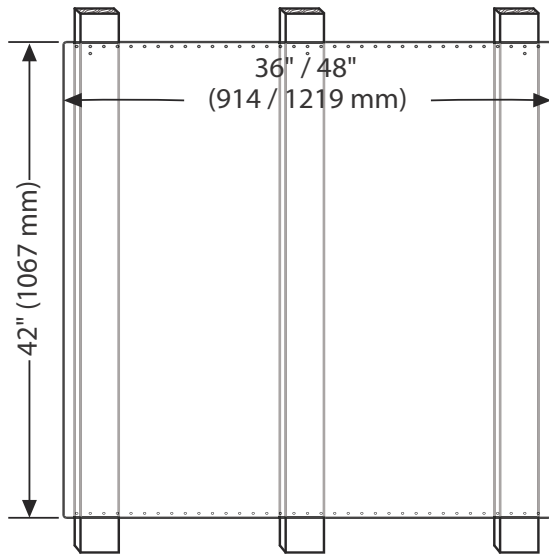

Figure 21: Backsplash Installation
3. Per each wall stud, use (2) 1" (25.4 mm) Phillips head screws to secure both the top and bottom of the Backsplash (see *Figure 21*). Space screws evenly across top and bottom of Backsplash.